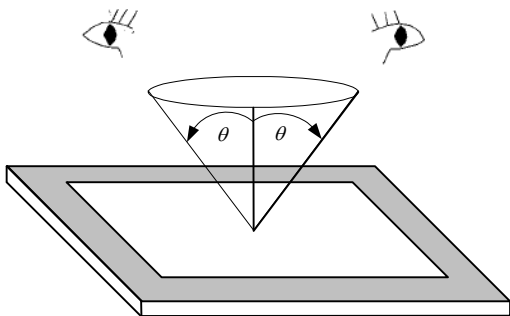

Fig. 11.1
- (1) Ambient illumination for the inspection with LCD and backlight ON : 300~500[lx]
- (2) Inspection distance(viewing distance to LCD module) : Approximately 30 cm
- (3) Viewing angle :  $\leq 30^\circ$
- (4) Refer to the Measurement Conditions described in Item 6.1 for all other conditions.
- The viewing zone is defined with angle  $\theta$  shown in Fig. 11.1 The inspection should be performed within  $30^\circ$  when display is shut down. The inspection should be performed within  $5^\circ$  when display is power on.